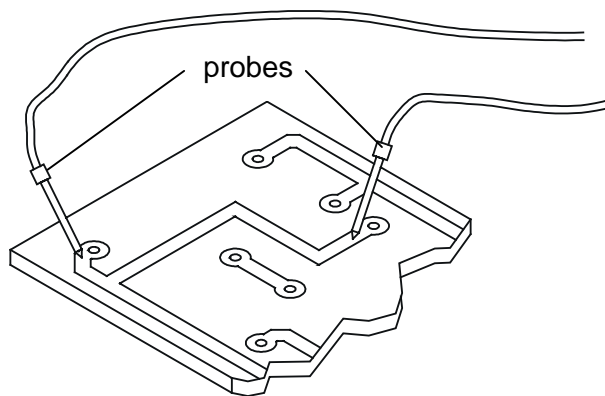

Fig. 3
- 2 A printed circuit board (PCB) for the light meter has a suspected break in one of the PCB tracks. Fig. 3 shows the probes of a multimeter being used to test the PCB.
- (ii) With the probes as shown in Fig. 3 and the multimeter set to the most suitable range, the reading is **0.00**